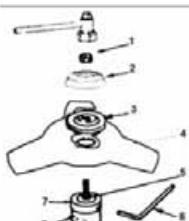

Fig.BC5
4.4- Installing the metal blade (Fig.BC5)
- Fig.BC5